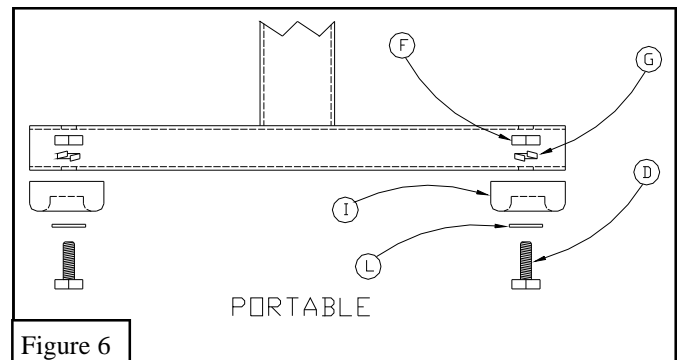

Figure 6
3. If you want the bench to be portable attach the *Rubber Feet* (I) to the *Leg Assemblies* (B) with 3/8" x 1 1/2" *Hex Bolts* (D), 3/8" *Flat Washers* (L), 3/8" *Lock Washers* (G) and 3/8" *Hex Nuts* (F). See Figure 6.
3. If you want the bench to be portable attach the *Rubber Feet (I)* to the *Leg Assemblies (B)* with *3/8" x 1 1/2" Hex Bolts (D)*, *3/8" Flat Washers (L)*, *3/8" Lock Washers (G)* and *3/8" Hex Nuts (F)*. See Figure 6.